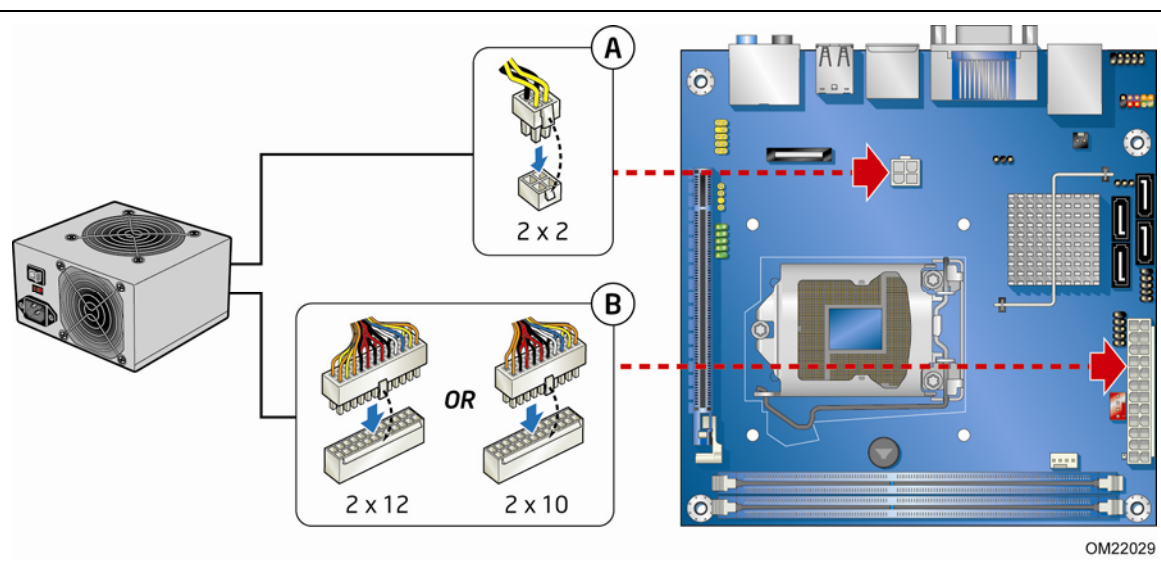

Figure 23. Connecting Power Supply Cables
Failure to use an appropriate power supply and/or not connecting the 12 V power connector (Figure 23, A) to the Desktop Board may result in damage to the board or the system may not function properly.
Figure 23 shows the location of the power connectors. The 2 x 12 pin main power connector (Figure 23, B) is backwards compatible with ATX12V power supplies with 2 x 10 connectors.
2. Connect the 12 V processor core voltage power supply cable to the 2 x 2 pin connector (Figure 23, A).
3. Connect the main power supply cable to the 2 x 12 pin connector (Figure 23, B).